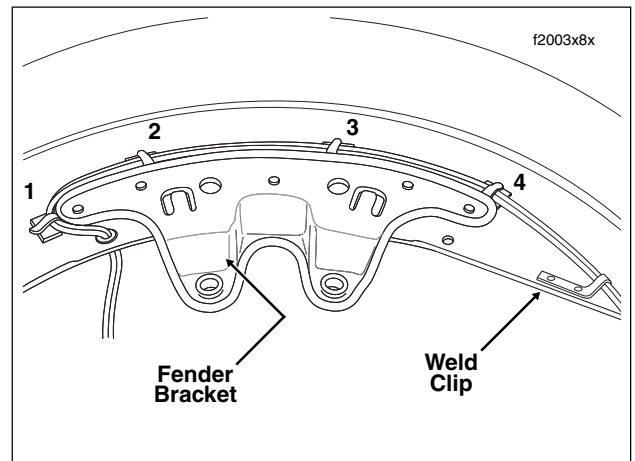

Figure 8-47. Four Metal Adhesive Clips (Left Side Front Fender Well)
1. See Figure 8-47. Carefully inspect the condition and security of the four metal adhesive clips in the left side fender well. Replace the clips if broken, loose or missing. Proceed as follows:
12. Reaching under left side of fender, route wires of the jumper harness through one weld clip and four metal adhesive clips. See Figure 8-47.